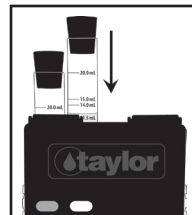

Fig. 1
5. Place the cell in the right position of the comparator, so that the cell markings are out of view. (Fig. 1)